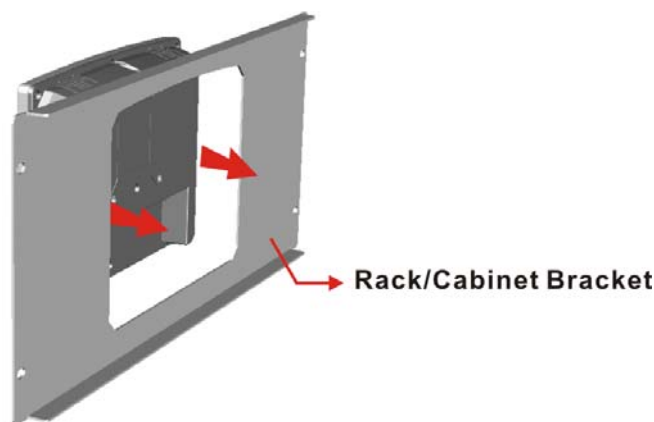

Figure 4-22: The Rack/Cabinet Bracket
Step 1: Slide the rear chassis of the AFL-xxA-N270 series flat panel PC through the rack/cabinet bracket until the aluminum frame is flush against the front of the bracket (**Figure 4-22**).